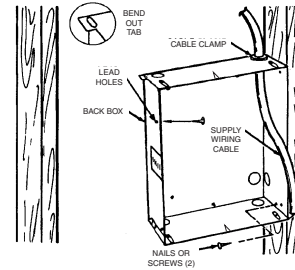

Figure 1
1. Determine which side of the back box is to be mounted against a stud and bend the tabs at the rear corners out 90 degrees so that the back box will be square with the stud after installation. (See Figure 1).
3. Position back box against side of studs and secure using nails or screws as shown in Figure 1.
**NOTE:** Lead holes for a #8 sheet metal screw have been provided in the sides of the back box.. After the finished wall or ceiling has been put up, drive a # 8 sheet metal screw (recommended 1" long) through the side of the box not mounted to the stud. This will prevent the back box from pulling out when installing the heater assembly. (See Figure 1)